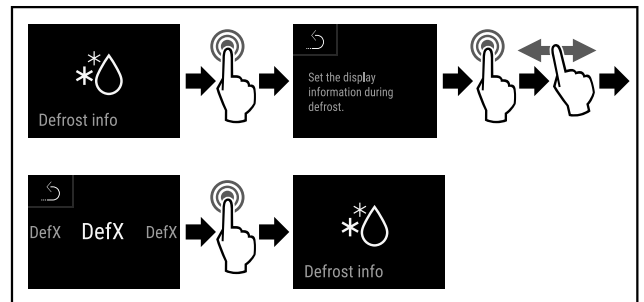

Fig. 135
- ▶ Complete steps (see Fig. 135) .